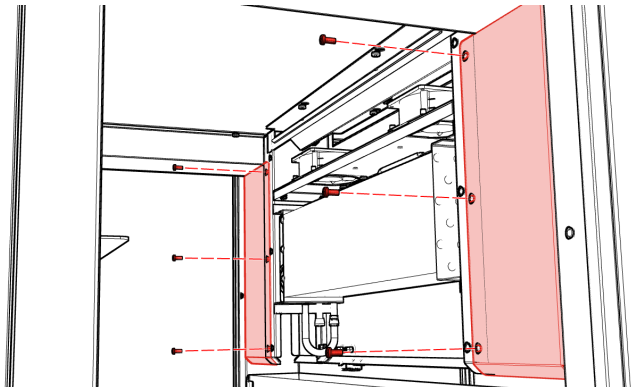

Fig. 14
2. Remove six (6) M5 × 12 screws from evaporator side access panels (Fig. 14).